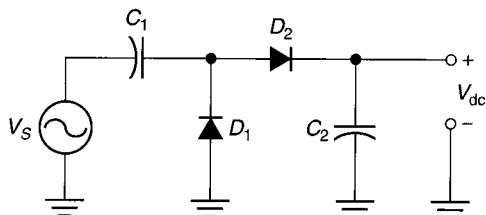

FIGURE 4.38
22. The circuit shown in Figure 4.38 has a  $15 \text{ V}_{\text{pk}}$  input signal. Determine the values of  $V_{C1}$  and  $V_{C2}$  for the circuit. Assume that the diodes are ideal components.
- 23.** The circuit shown in Figure 4.38 has a  $48\text{ V}_{\text{pk}}$  input signal. Determine the values of  $V_{C1}$  and  $V_{C2}$  for the circuit. Assume that the diodes are ideal components.